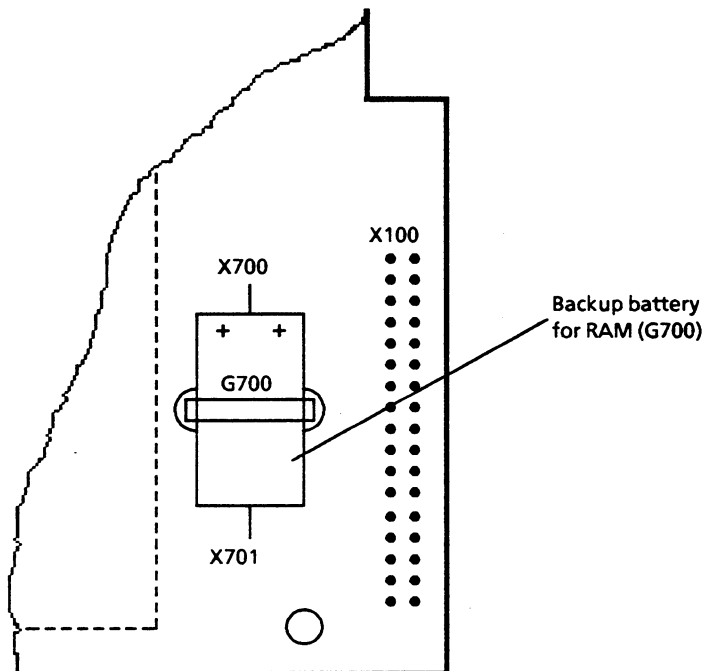

Fig. 4-1 Position of RAM backup battery on the mainboard
- Measure the battery voltage after connection of a digital voltmeter to soldering terminals X700 and X701. Make sure not to produce a short-circuit from the positive battery terminal X700 to ground (Fig. 4-1).